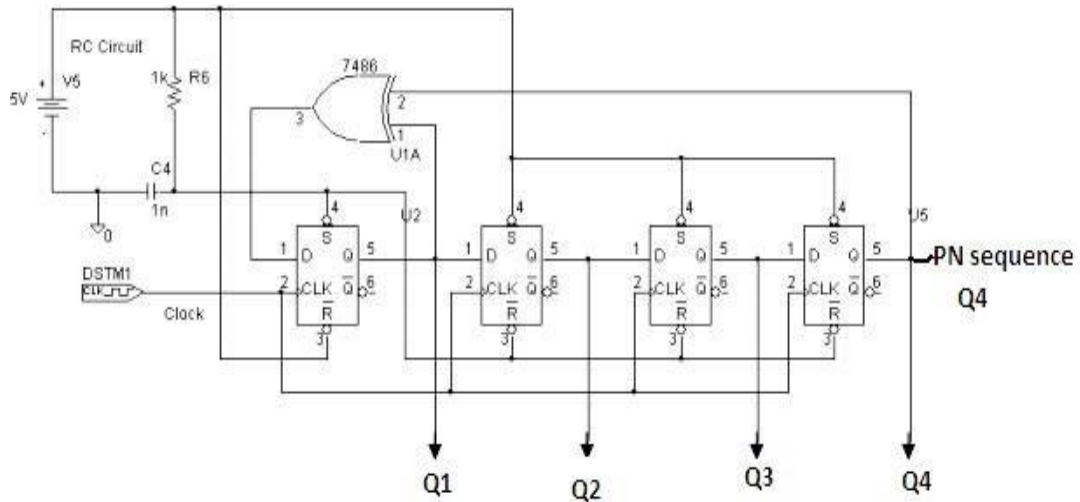

Figure 25.2: 4 bit PN-Sequence Generator
1. Make connections as shown in figure 25.2.